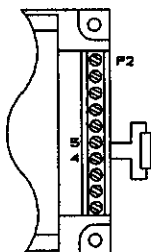

Fig. 2
**NOTE:** When connecting the CURRENT ADJUSTMENT resistor between Pins 4 and 5 of Connector P2 the leads should be as short as possible to help minimize the noise coupled into the driver (See Figure 2).